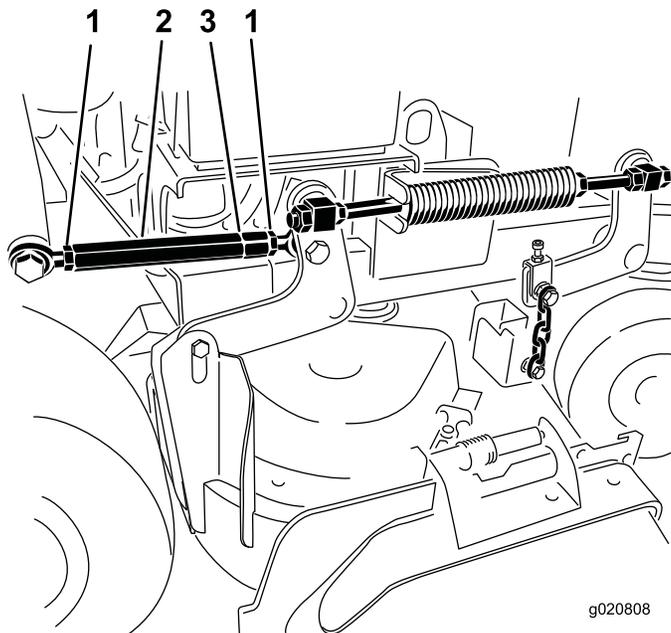

Figure 87
5. Loosen the jam nuts at both ends of the turnbuckle (Figure 87).
Note: The end of the turnbuckle with the groove machined in it, has left-hand threads (Figure 87).